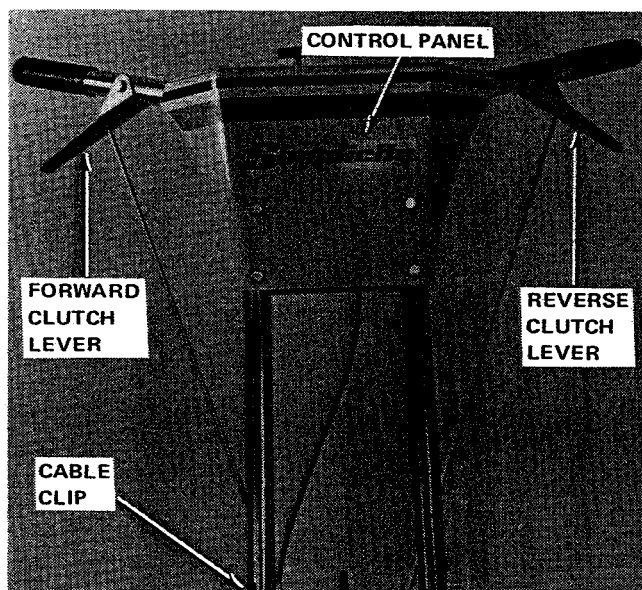

Figure 20. Installing Control Rods
3. Disassemble the control panel and install parts on the handles (see figure 20). Install the four capscrews through front panel, handle posts, and then the back plate for the panel. Tighten a lockwasher and hex nut on each capscrew.
7. Install cable clip on right handle post to hold throttle cable (see figure 20).
1. Install a control rod through forward clutch lever on right handle (see figure 20).
6. Install remaining clutch rod through reverse clutch lever (see figure 20).